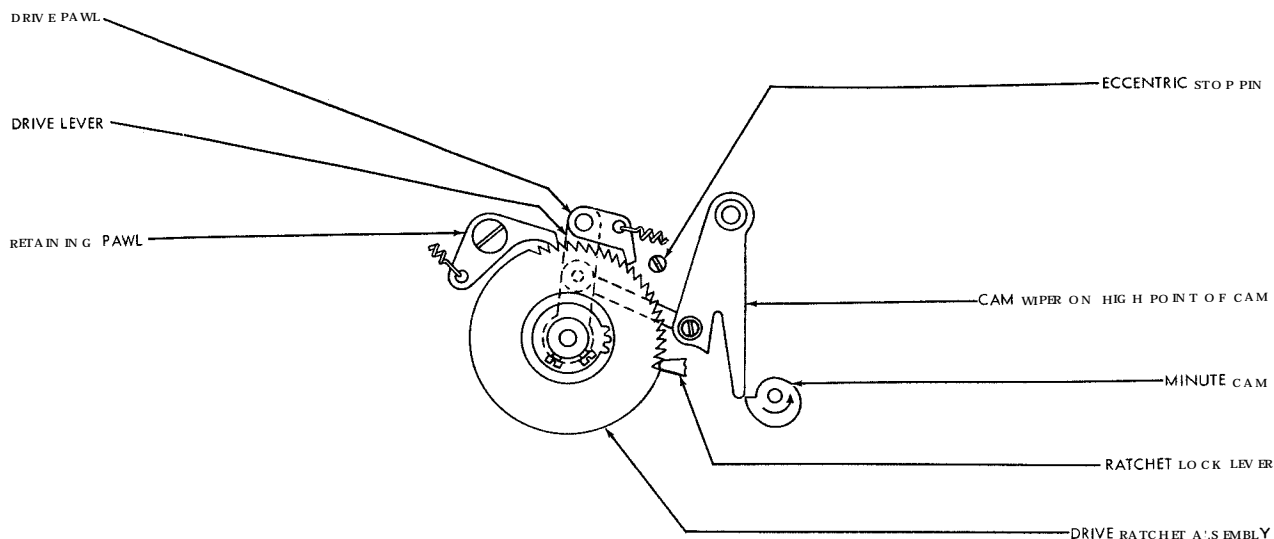

Figure 2-24. Minute Drive Assembly
(2) DRIVE MECHANISM.—The minute cam is driven at one rpm by a synchronous motor which runs continuously. The cam wiper portion of the ratchet lock lever rides the minute cam, and, as the high point of the cam moves around, the cam wiper moves forward. The lower end of the cam wiper is linked to a drive lever and drive pawl. As the wiper and link are moved by the cam, the drive pawl drops into the next tooth on the ratchet (see figure 2-24).